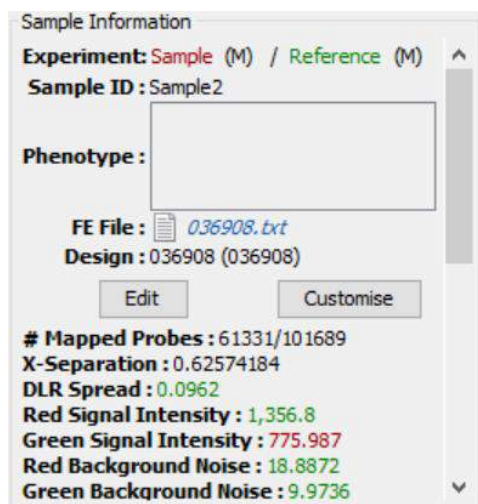
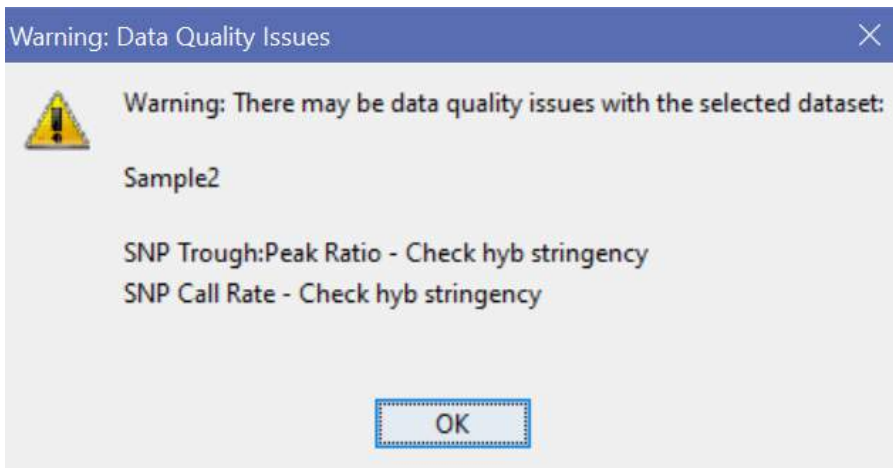

Figure 27: Sample Information box from the left panel of the Genomic View tab.
Figure 28: Data Quality Warning box detailing three potential issues with the data from Sample 2.
- Genomic View Tab** — When viewing data in the **Genomic View** tab, quality metrics are displayed in the **Sample Information** box in left-hand panel. See Figure 27 for an example of a **Sample Information** box. If there are any potential issues with the quality, a yellow triangle containing an exclamation mark (⚠️) will be displayed at the bottom of the box. One left-click on the triangle will bring up a message box (like that in Figure 28) containing information on which quality metrics pose issues.